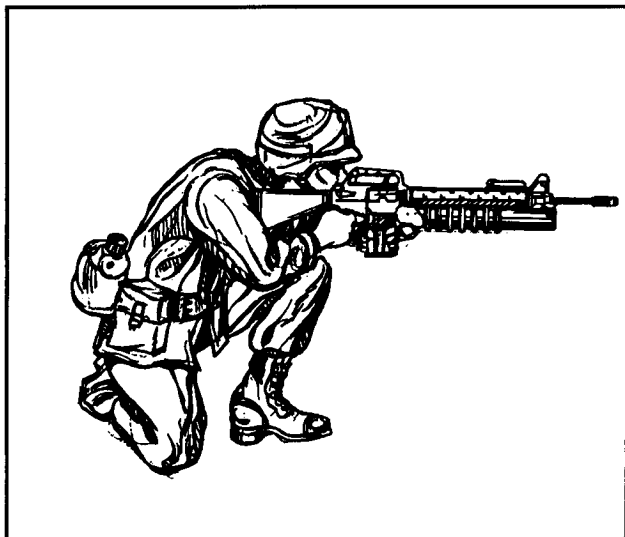

Figure 5-2. Kneeling position.
(2) ***Kneeling position.*** Figure 5-2 shows the kneeling position.